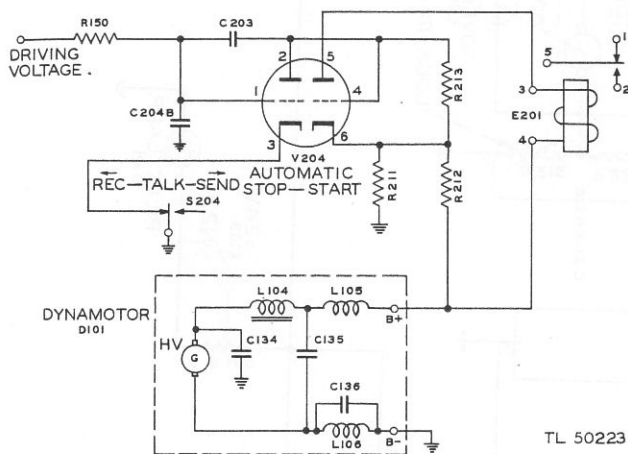

Figure 23—Automatic-stop-start circuit and dynamotor high-voltage circuit, schematic diagram
21. AUTOMATIC STOP-START CIRCUIT. Refer to fig. 23 when tracing this circuit.
24. DYNAMOTOR. High voltage for plate circuits of the amplifier and recorder-scanner is supplied by the dynamotor (D101). The low-voltage input winding and the high-voltage output winding of the dynamotor are wound on a single armature shaft, with motor commutator and brushes at one end, and generator commutator and brushes at the other end (fig. 23 and 24). A filter section is used in both the motor and generator sections to smooth out voltage ripples, and to eliminate hash in the voltage supply, such as might be caused by brush arcing or slight fluctuations in speed.